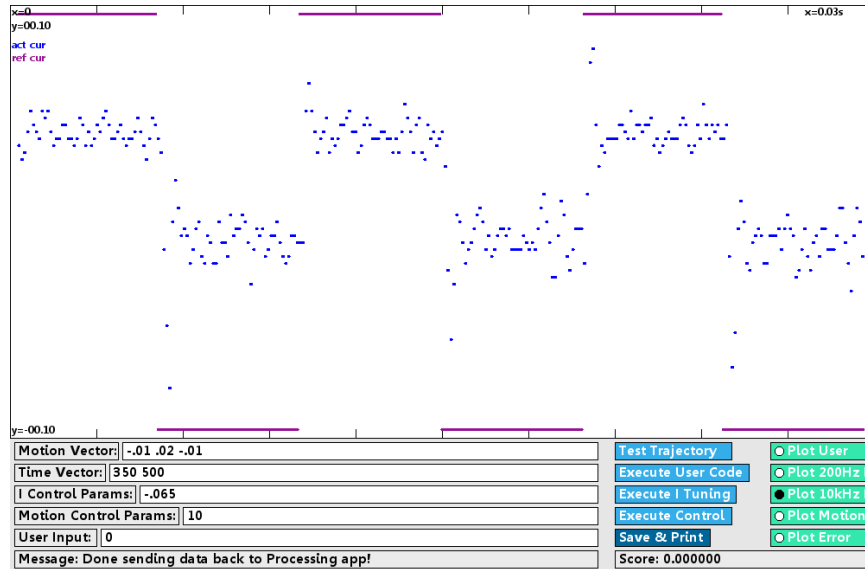

Figure 3: An example showing the performance of the current controller, tested with `Execute I Tuning`.
- `Execute I Tuning`. This sends over the GUI entries and performs a current control test. The commanded current is a 100 Hz square wave with values ± 0.1 Amps. You can tune your current controller parameters (feed-forward parameters or feedback gains) to achieve good current tracking. Your motor will not move appreciably due to the high frequency and short duration of the test. The reference and measured current, collected at 10 kHz for a few cycles, will be sent back for plotting. See Figure 3 as an example.